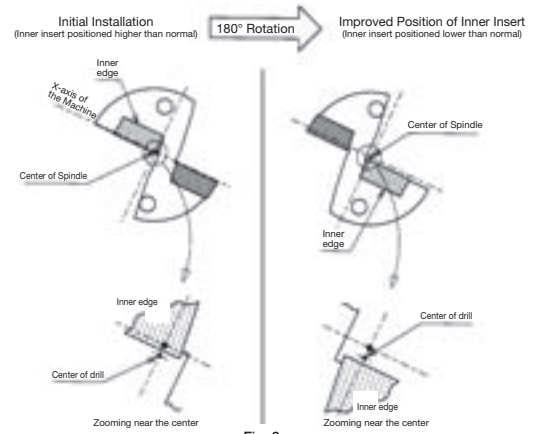

Fig. 8
- ① Install the drill rotated 180°. Most problems will be solved by this method. (Fig. 8)